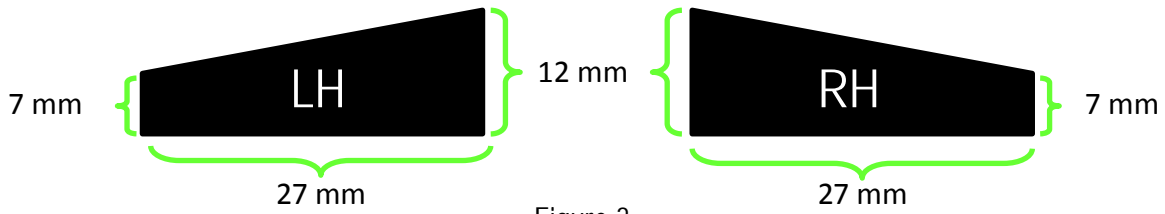

Figure 3
7. Cut two pieces of felt tape (P/N J-50397-4) to the dimensions shown in Figure 3 below.